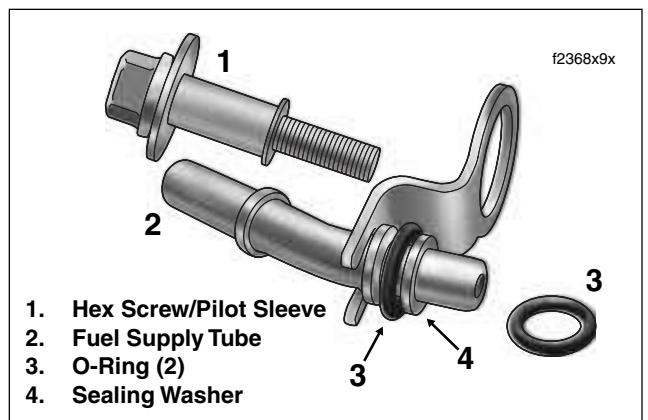

Figure 9-28. Fuel Supply Tube Assembly
3. Pull fuel supply tube from fuel rail. Remove sealing washer and O-ring from fuel supply tube. Remove second O-ring from fuel rail bore. Discard sealing washer and O-rings. See Figure 9-28.
5. Slide **new** O-ring down shorter neck of the fuel supply tube until it contacts the collar. Slide **new** sealing washer down tube until it contacts O-ring. Install second O-ring in fuel rail bore. See Figure 9-28.